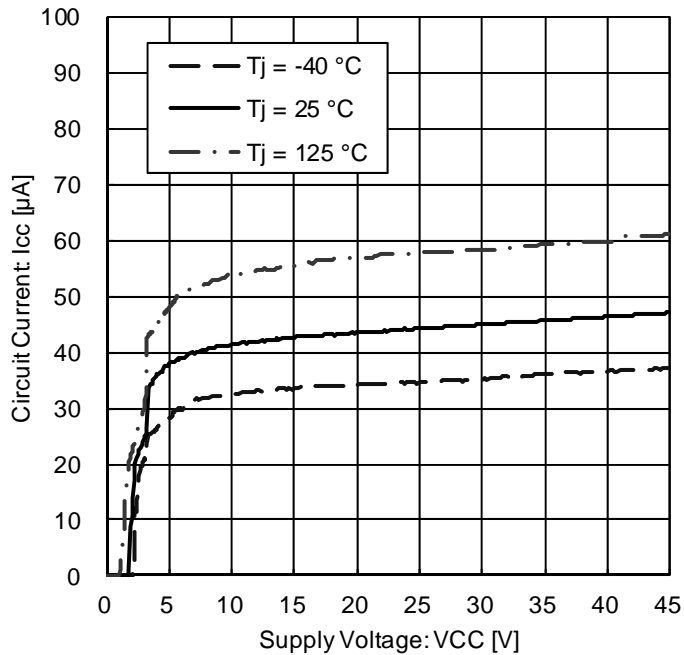

Figure 5. Circuit Current vs. Power Supply Voltage
*Magnified Figure 5. at low supply voltage